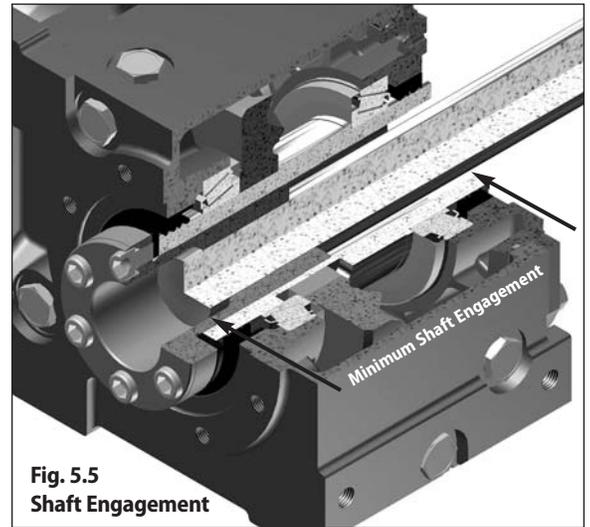
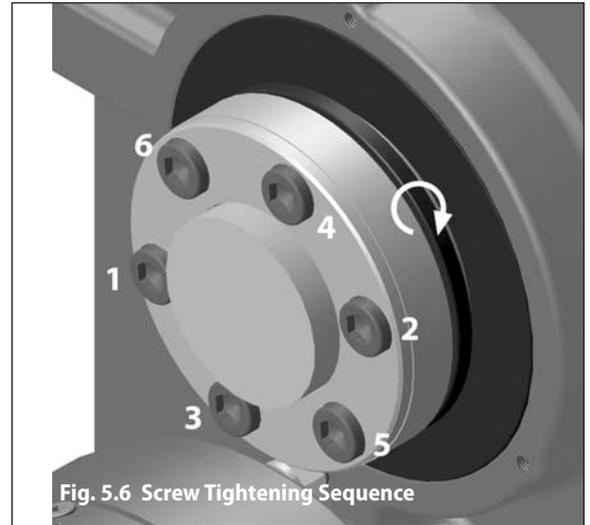

Fig. 5.5 Shaft Engagement
Fig. 5.6 Screw Tightening Sequence
Step 6 – Position unit with the bushing flange located on the outboard side of the unit. Align the bushing with the driven shaft. Slide the unit onto the driven shaft as close to the driven shaft support bearing as possible. Ideally, the driven shaft should extend beyond the bushing flange face (see Fig. 5.6). Refer to Fig. 5.5 and Table 5.11 below for minimum shaft to engagement.
Step 7 – With a torque wrench, gradually tighten the capscrews to engage the bushing system. Use the appropriate tightening pattern ("star-pattern" see Fig. 5.6) to assure complete bushing engagement. Tighten each capscrew to the torque values shown in this Table 5.12.